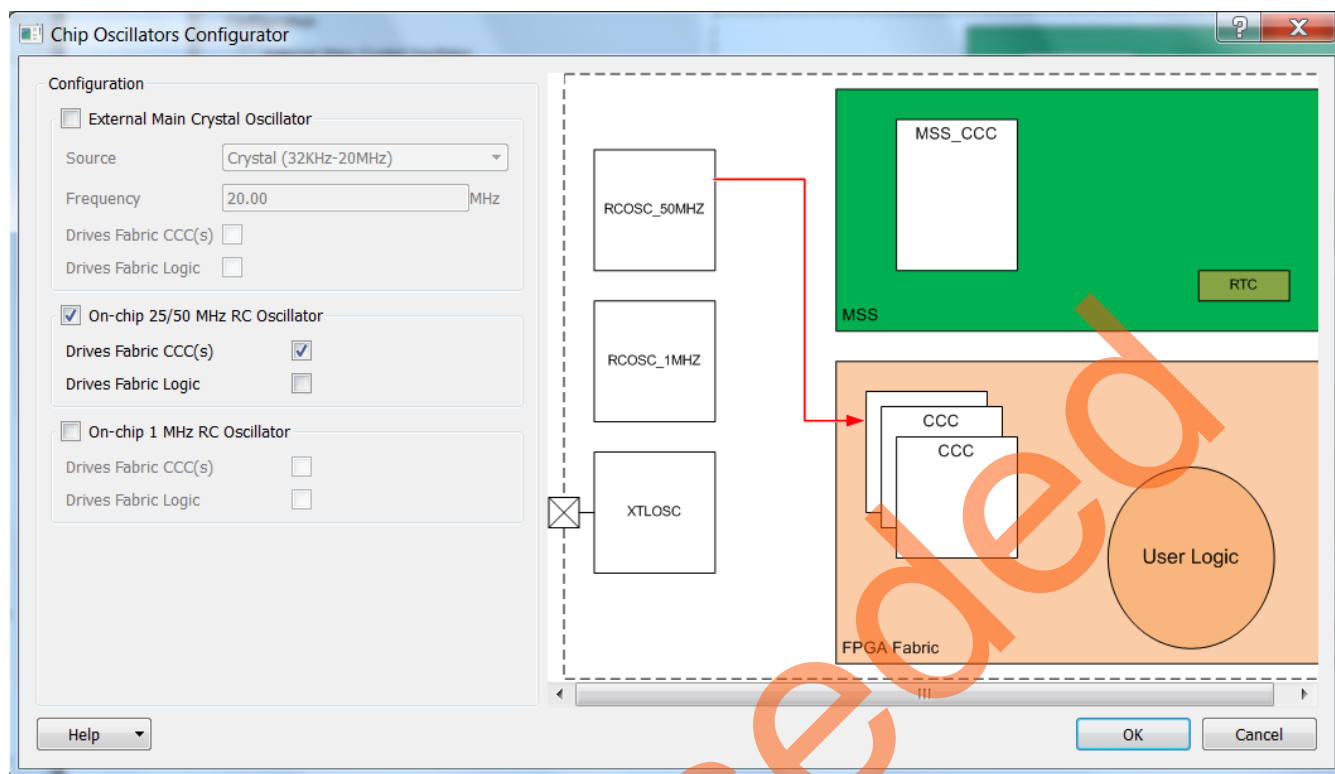

**Figure 21.** Exposing PLL Reset and Power-down Signals
- Select the **PLL Options** tab and select the **Expose PLL\_ARST\_N** and **PLL\_POWERDOWN\_N** check box, as shown in Figure 21.